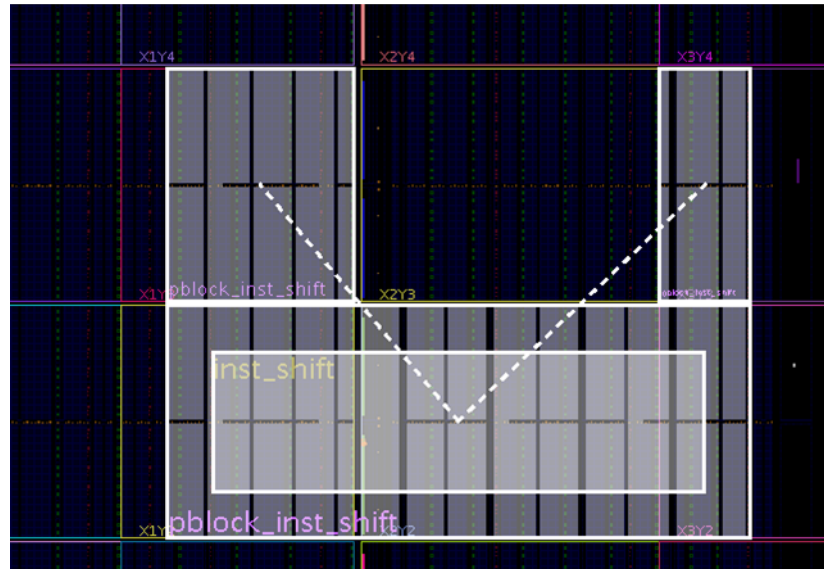

Figure 7-5: **Unsupported Pblock with clock_region Gap**
4. Do not create U or H shaped Pblocks with large gaps that span an entire clock_region, as shown in Figure 7-5 below.